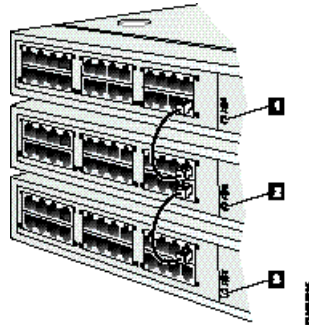

Figure 2-1 Patch Cable and MDI Selector Configuration
- c. Use a pointed instrument to set the medium-dependent interface (MDI) switch on the top and middle hubs to **MDI** (in) as shown in Figure 2-1 (1 and 2).
- d. Set the medium-dependant interface (MDI) switch on the bottom hub to **MDIX** (out) as shown in Figure 2-1 (3).
- c. Use a pointed instrument Figure 2-1 (1 and 2), to set the medium-dependent interface (MDI) switch on the top and middle hubs to **MDI** (in). As shown in Figure 2-1 (3), set the MDI switch on the bottom hub to **MDIX** (out).